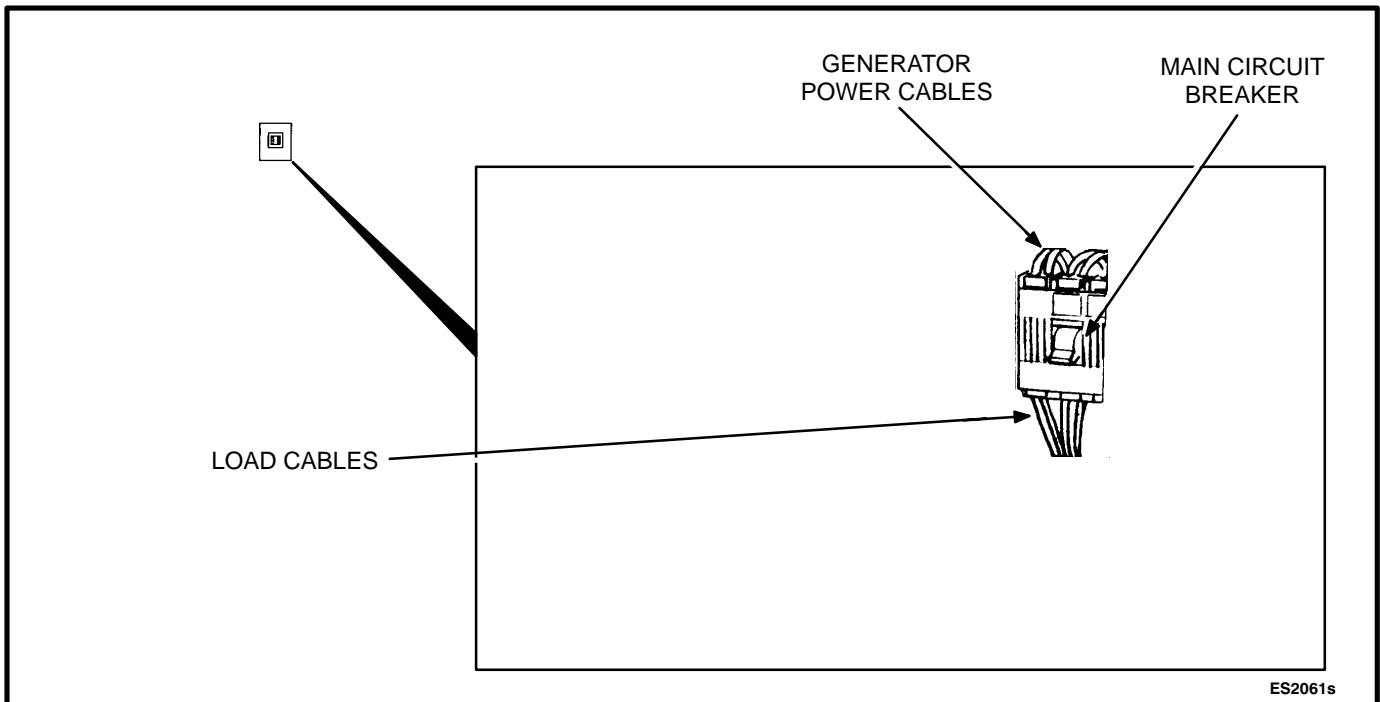
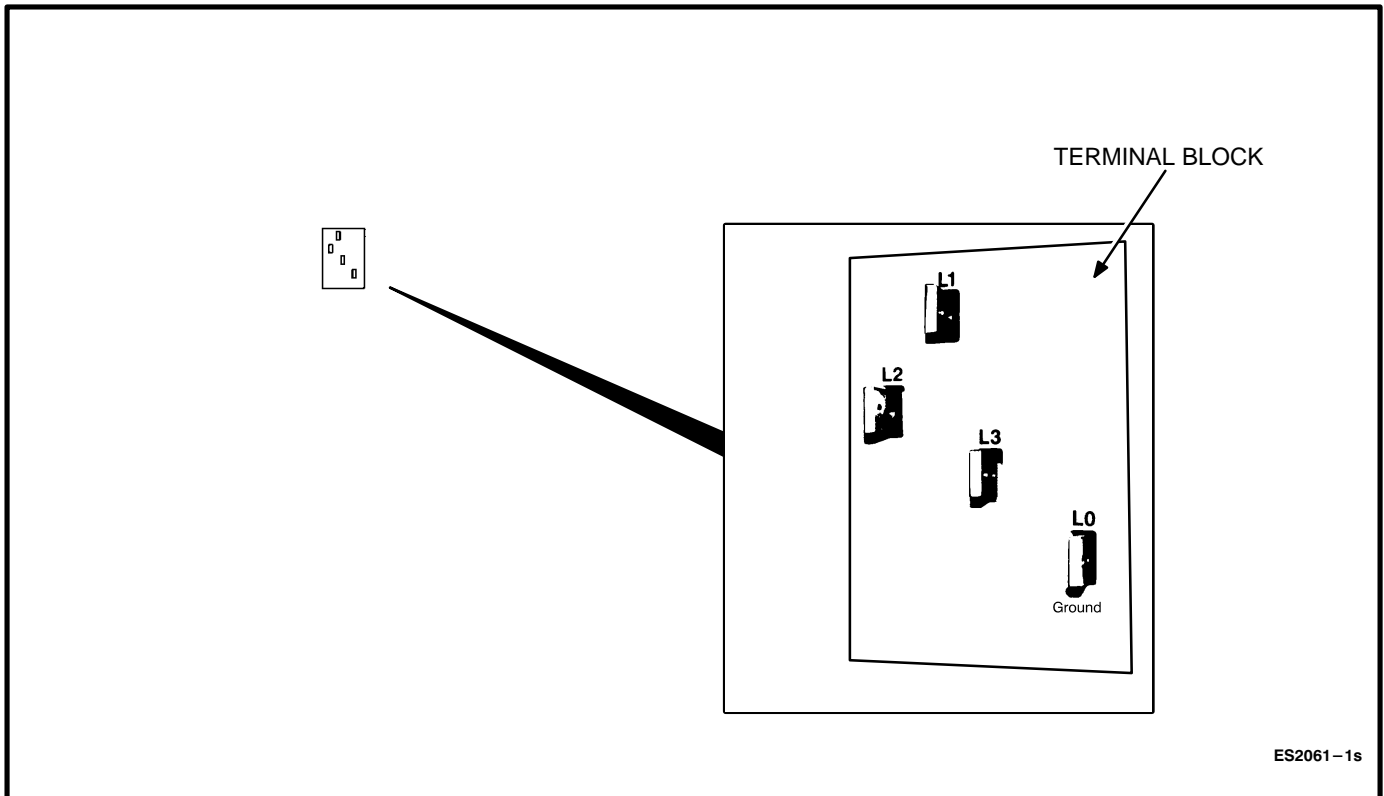

FIGURE 5-7. LOAD CONNECTION TO MAIN CIRCUIT BREAKER
FIGURE 5-8. TERMINAL BLOCK LOAD CONNECTION
Use the following procedure to connect the load cables to the optional main circuit breaker (see Figure 5-7). (This is required on gensets that do not contain the terminal block load connection option as shown in Figure 5-8.)
4. Attach the load cables to the base of the optional main circuit breaker as shown in Figure 5-7.
Use the following procedure to connect the load cables to the optional terminal block (see Figure 5-8).
2. Lift up on the bottom of the red access cover to expose the L0 through L3 terminals (see Figure 5-8).
The access cover must be modified on gensets that contain the day tank option or if the lower rear access door does not contain the optional cut-out for the load cables. (Load cable access is provided only on gensets that contain the optional terminal block load connection panel, Figure 5-8.)